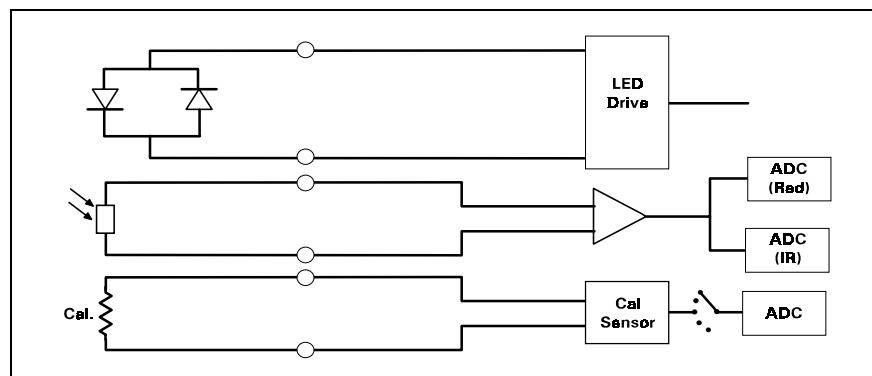

Figure 2-4 SpO₂ Functional Block Diagram
The pulse oximeter circuit uses a Nellcor[®] sensor to detect the oxygen saturation level in arterial blood flow. Determination of the concentration of oxygen in the blood is based upon the principle that the absorption of red (R) light depends on the degree of oxygenation of the blood, whereas the absorption of infrared (IR) radiation is relatively independent of oxygenation and causes only constant attenuation. See Figure 2-4. In the SpO₂ sensor, R and IR light emitting diodes (LEDs) are alternately pulsed ON at a 25% duty cycle. The light is transmitted through a well-perfused part of the body, such as a fingertip or an ear lobe. The intensity of light (including ambient) transmitted through or scattered by the blood is converted to a current by a photodiode in the sensor. The current that appears when both LEDs are OFF depends mainly on the ambient light, which is later subtracted to leave only the R or IR signal levels. The large dynamic range of the light intensities requires constant automatic monitoring and adjustment.